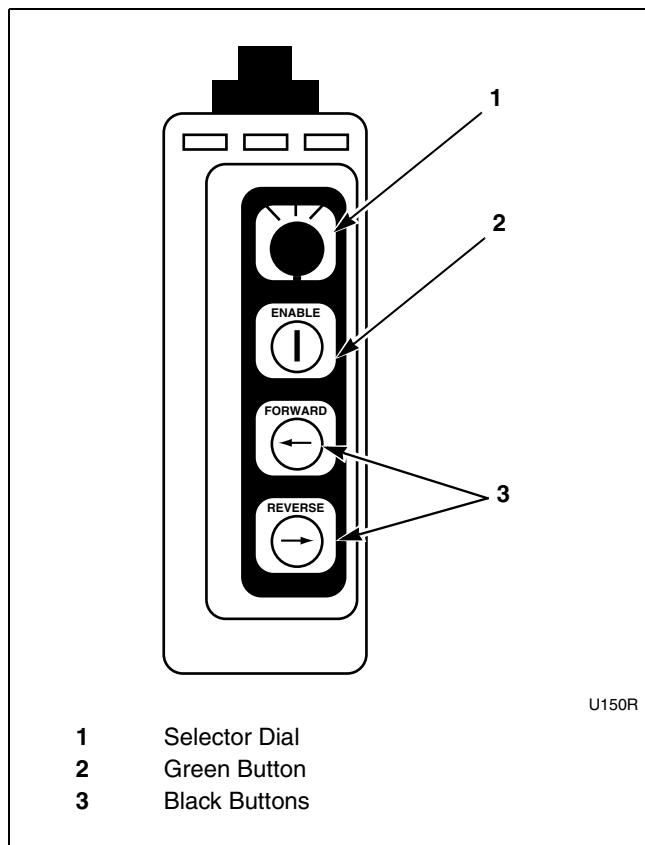

Figure 9
The mechanism is controlled via a pendant switch (refer to *Figure 9*), which is suspended from a point just above the electrical panel on the left side of the washer-extractor. Access height has been determined based upon an average-sized person.
2. Turn the selector dial on the pendant switch right to the forward tilt position. Refer to *Figure 9*.
3. While holding down the green ENABLE button, press the black FORWARD button. Refer to *Figure 9*. The washer-extractor will slowly tilt forward, and the basket will rotate clockwise.
5. To lower the washer-extractor, turn the selector dial back to the center position. Refer to *Figure 9*.
2. Turn the selector dial on the pendant switch left to the reverse tilt position. Refer to *Figure 9*.
3. While holding down the green ENABLE button, press the black REVERSE button. Refer to *Figure 9*. The washer-extractor will slowly tilt backward and the basket will rotate counterclockwise.
5. To lower the washer-extractor, turn the selector back to the center position. Refer to *Figure 9*.